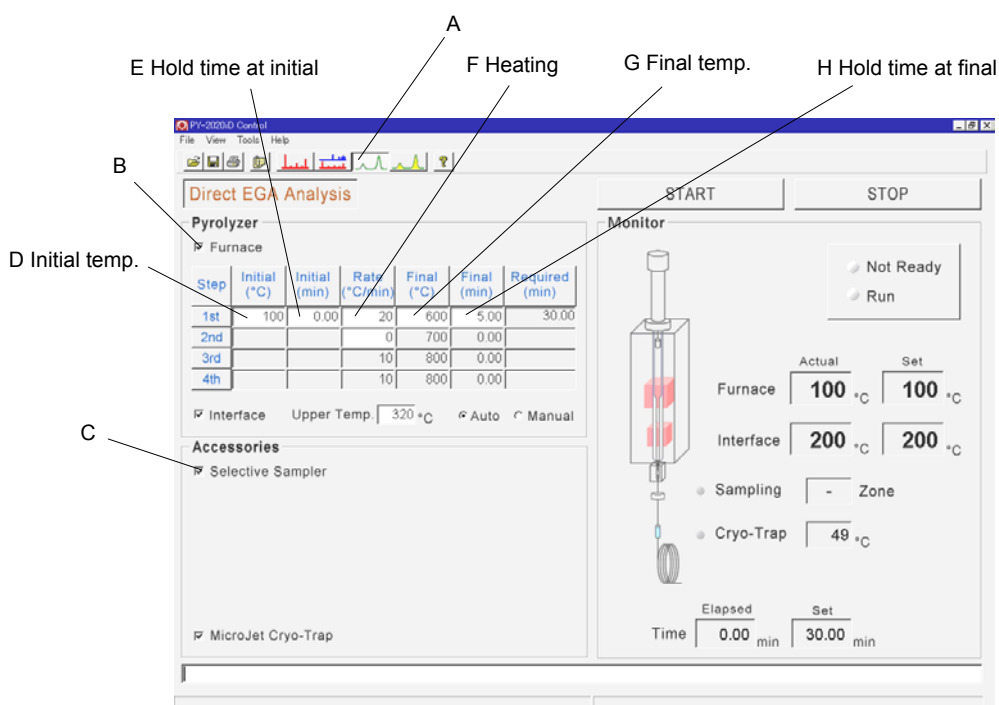

Fig. 4.14 Setting Screen of Direct EGA Analysis
1. Choose “Tools” > “Analytical Modes” > “Direct EGA Analysis”, or click the tool bar icon for Direct EGA Analysis (A). A screen shown in Fig. 4.14 is displayed.